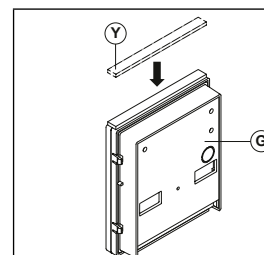
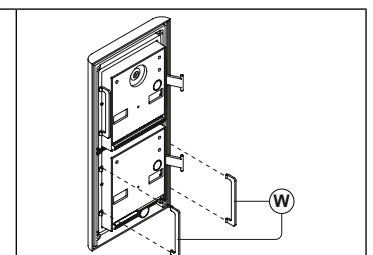

Fig. 5
Fig. 6
Apply the (Y) seal as shown in **Fig. 5**.
Fit the anti-tampering locks (W) as shown in **Fig. 6**.
- Before installation of the module support frame, hook the modules **(G)** to the support frame **(H)** as shown in **Fig. 5** then, as shown in **Fig. 6**, fit the two anti-tampering locks **(W)** for each module (do the same for the second module support frame);